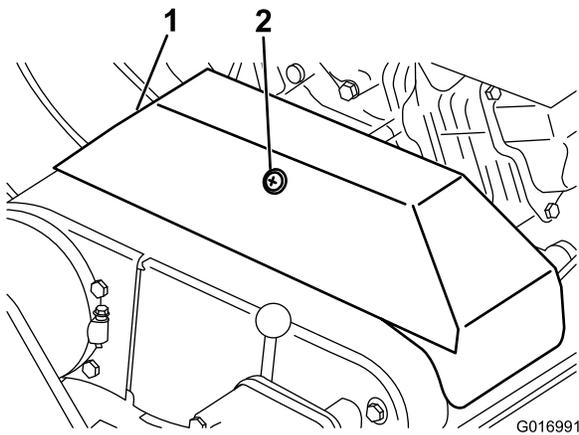

Figure 32
3. Loosen the retainer securing the V-belt cover and pivot the cover open (Figure 32).